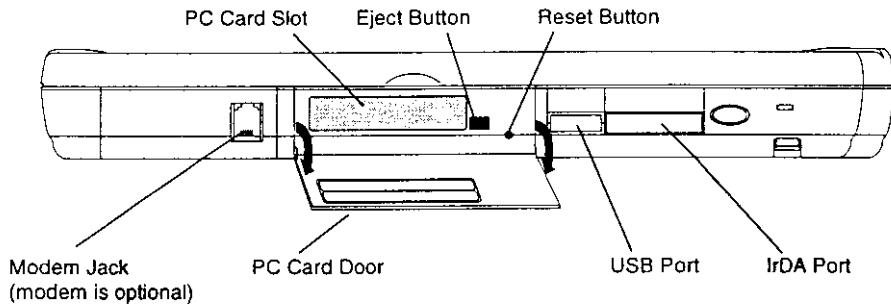
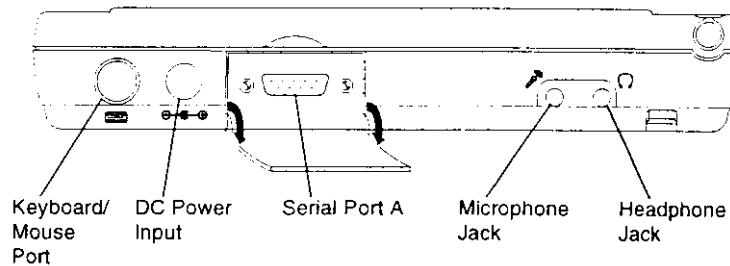
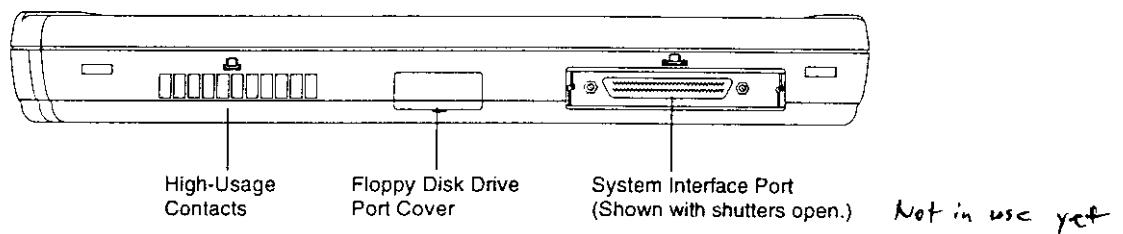

Figure 2-3 Point 1600 Pen Tablet Connectors - Top
Figure 2-4 Point 1600 Pen Tablet Connectors- Right
Figure 2-5 Point 1600 Pen Tablet Connectors - Bottom
The location of peripheral connectors on the pen tablet are shown in Figure 2-3, Figure 2-4, and Figure 2-5.
1. Connect a phone line to the modem jack on the pen tablet. Figure 2-3 shows the location of the modem jack. (The built-in modem is designed for global use; however, an adapter may be required to connect your phone line to the modem jack in countries outside North America. Obtain an adapter from a local supplier if necessary.)